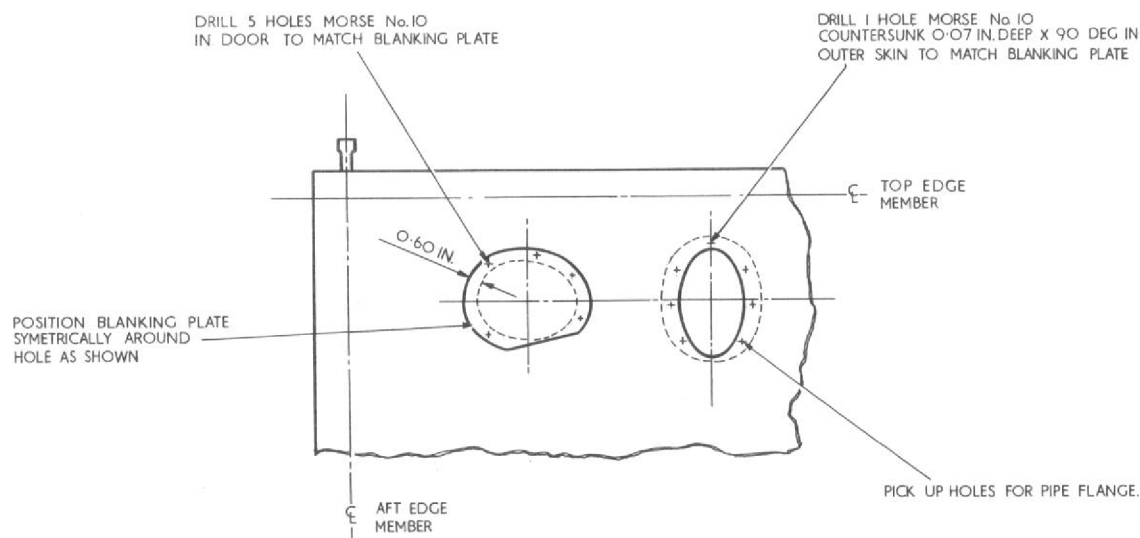

Fig. 2 Fitting blanking plates to starboard radio bay access door
- (1) Remove the starboard radio bay access door.
- (2) Remove the port and starboard link containers.
- (3) Remove the starboard outboard case chute from the aircraft, and the starboard inboard case chute from the starboard radio bay access door.
- (4) Modify the starboard radio bay access door as shown in fig. 2 and fit the blanking plates, Part No. A.260681 and A.260682, using bolts, Part No. AS.1242.1.C, nuts, Part No. A.G.S. 2002.C.1 and washers, Part No. S.P. 15.C.